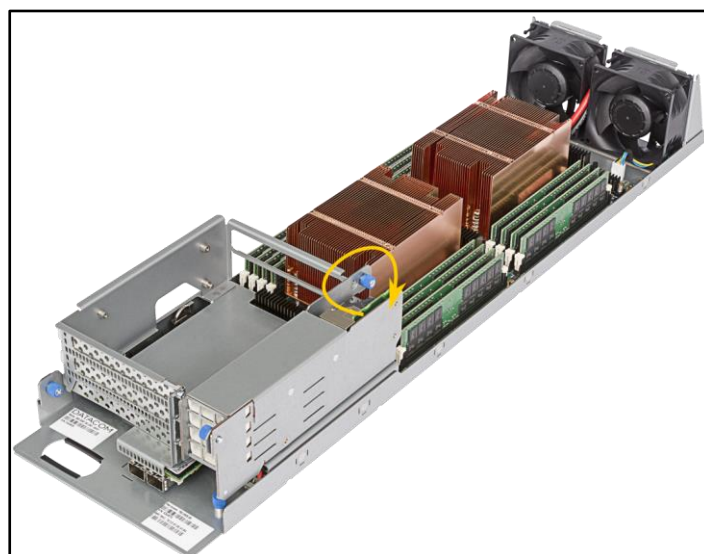

Figure 92 :E1.S Cage installation screw
4. Screw the fixing screw as shown in Figure 92.